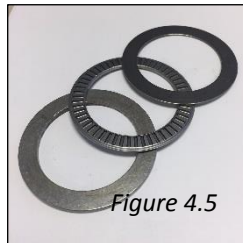

Figure 4.5
- 3.2 **Thrust washer** - should be flat within 0.25" and not bent or folded. (Figure 4.5)
- 3.3 **Needle bearing** - should not be compressed and be able to rotate freely. (Figure 4.5)